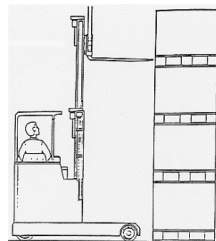

fig. 5
7. When the load is securely stacked, lower the fork arms until free of the pallet and reach in. When freeing the fork arms, slight forward tilt may be of assistance; otherwise it should seldom be necessary to use a forward tilt. (If the fork arms are not fully clear of the stack, the reach truck should be moved back a short distance, after ensuring the way is clear). Beware! Failure to ensure clearance of your forks within the load could result in you dislodging the load or even pull the stack over. (See fig. 5)